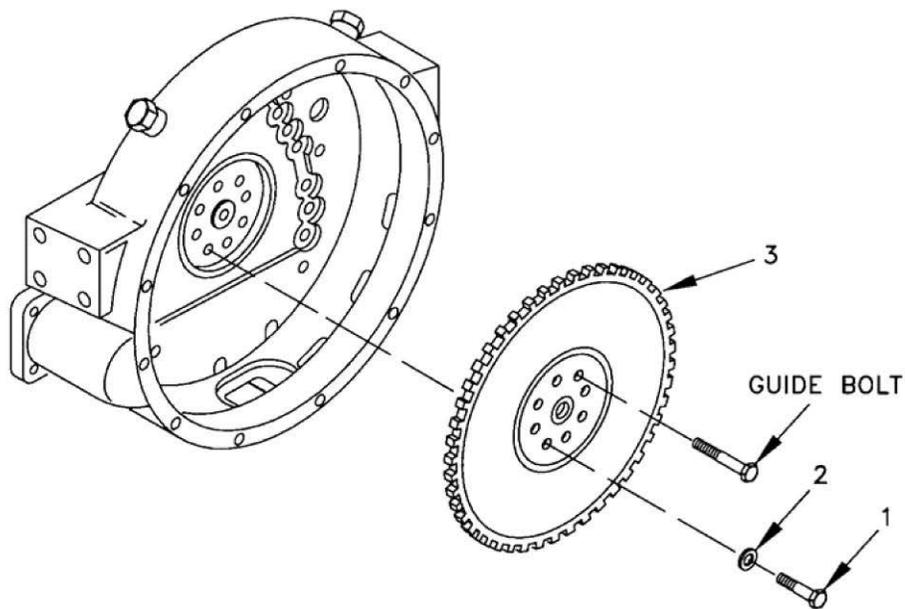

Figure 1. Flywheel.
1. Apply thread locking compound to threads of eight bolts (Figure 1, Item 1).
3. Align arrows on flywheel (Figure 1, Item 3) and crankshaft and position flywheel (Figure 1, Item 3).
4. Install seven washers (Figure 1, Item 2) and bolts (Figure 1, Item 1).
5. Remove guide bolt. Install top washer (Figure 1, Item 2) and bolt (Figure 1, Item 1).
6. Torque eight bolts (Figure 1, Item 1) to 75-100 lb•ft (100-140 N•m).